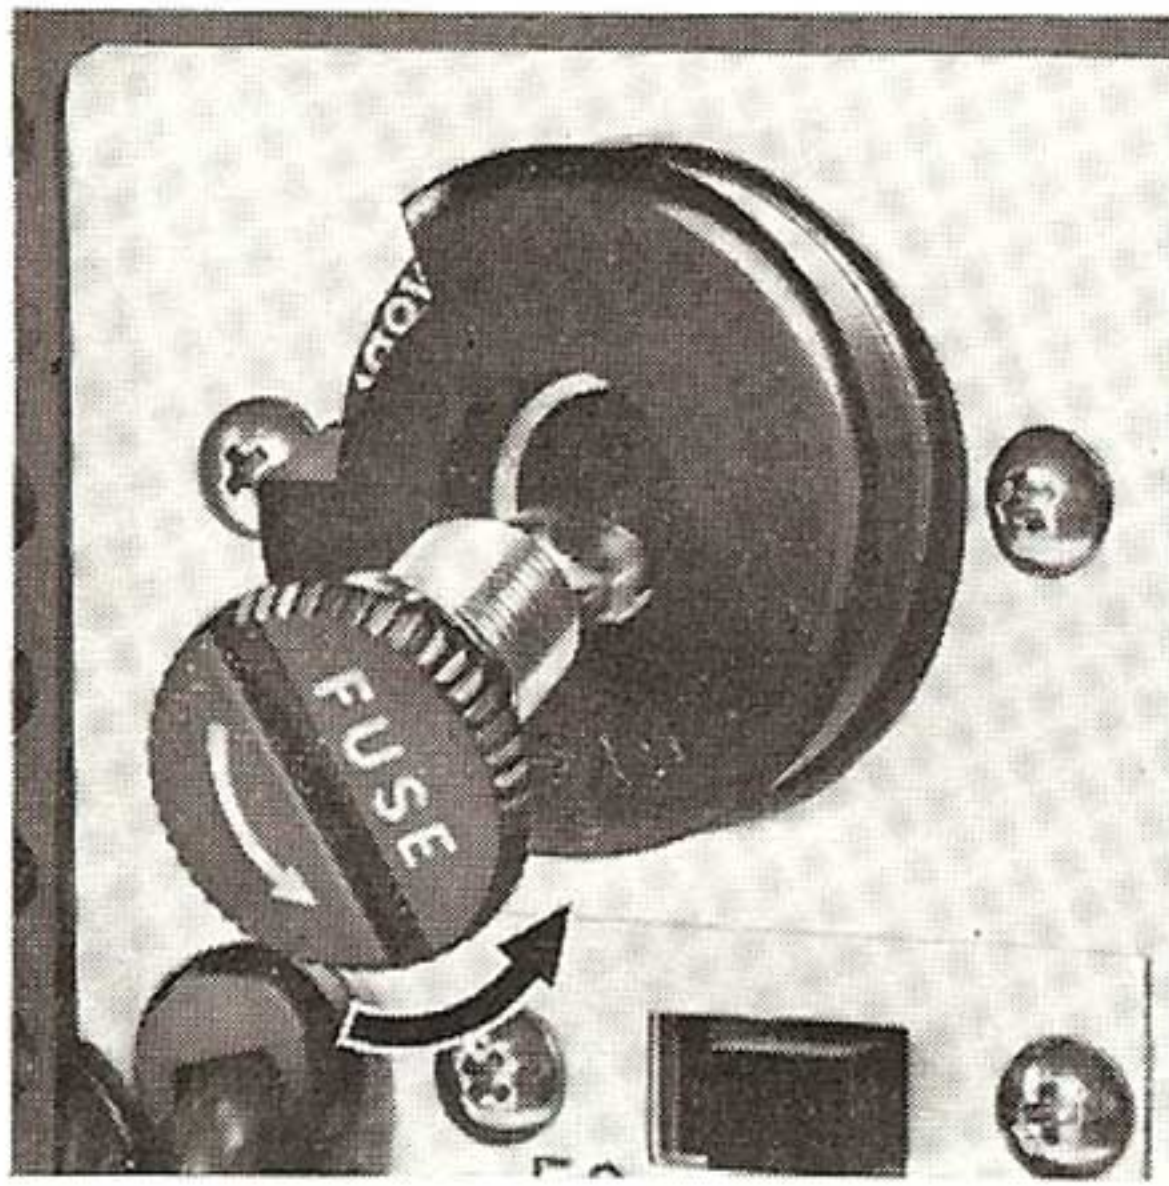

Fig. 4
1. Remove the FUSE POST ③⑥ as shown in Fig. 4. Remove the VOLTAGE SELECTOR PLUG ③⑤ and reinsert to required voltage.
2. The VOLTAGE SELECTOR ③⑤ as shown in Figures is a rotatable plug-in type offering six selections, 100/110/120/200/220/240.